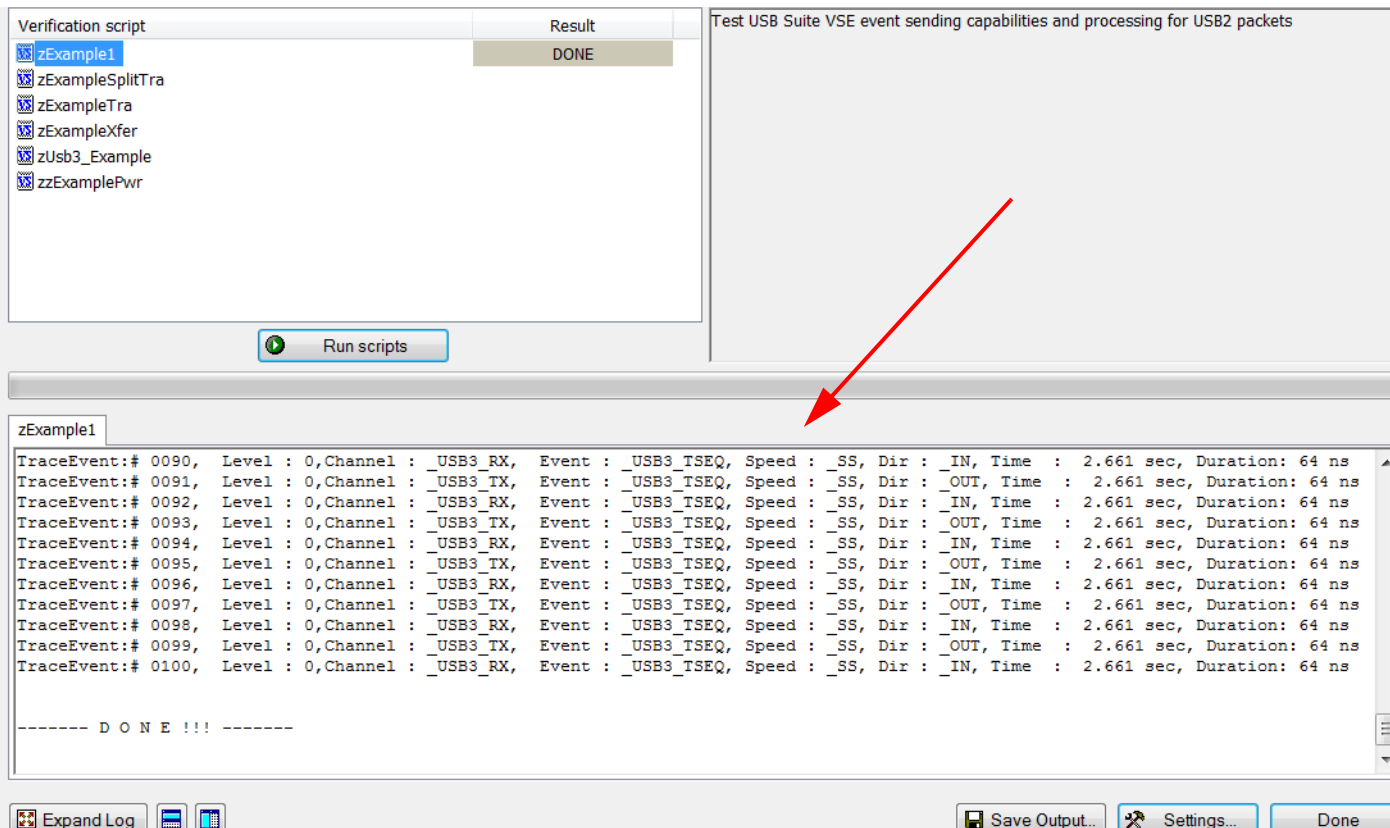

Figure 9.36: Verification Script Results
2. Press the button **Run scripts** after you select scripts to run. VSE starts running the selected verification scripts, shows script report information in the output windows, and presents the results of verifications in the script list (see Figure 9.36 on page 251).